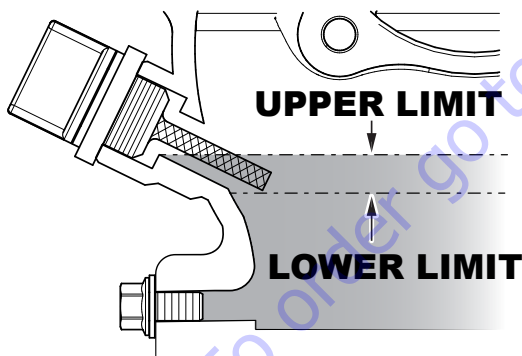

Figure 27. Engine Oil Level
4. If the oil level is low (Figure 27), fill to the edge of the oil filler hole with the recommended oil type listed in Table 5. Refer to Table 2 for maximum engine oil capacity.